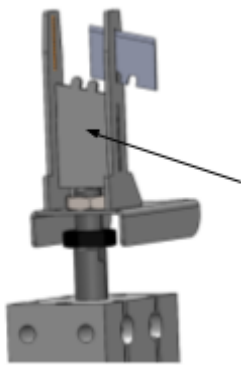

Figure 13
Step 5: When the knife holder is unscrewed, the locking plate will go down and the knife can be slid out from the side (figure 13).